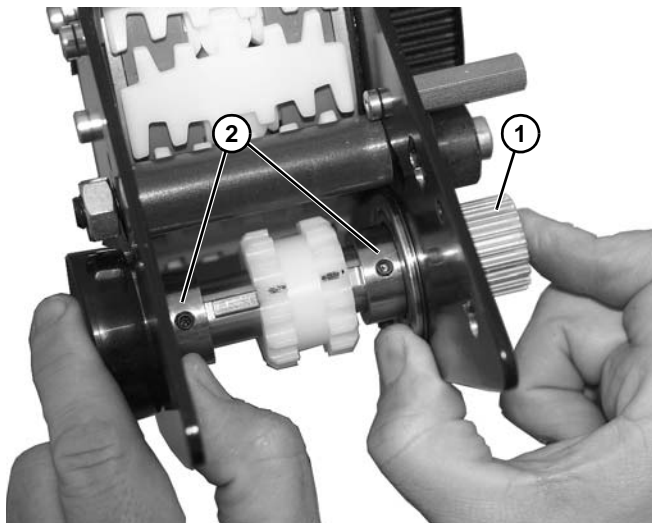

Figure 154
1. Install drive shaft (**Figure 154, item 1**) on two bearings (**Figure 154, item 2**) and press outward as shown.